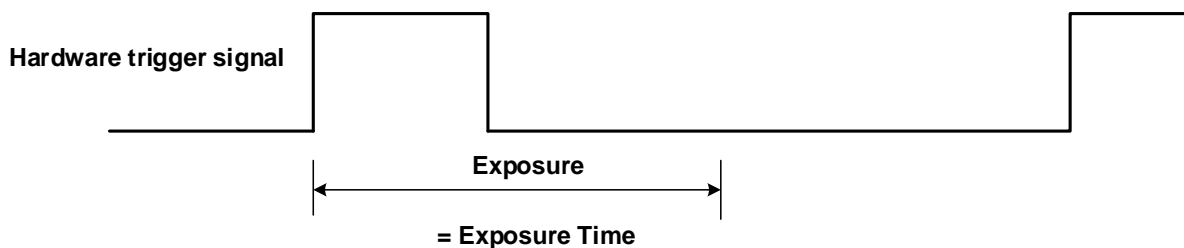

Figure 8-26 The sequence diagram in rising edge trigger of Timed exposure mode
- If rising edge triggering is enabled, exposure starts when the trigger signal rises and continues until the exposure time has expired, as shown in Figure 8-26